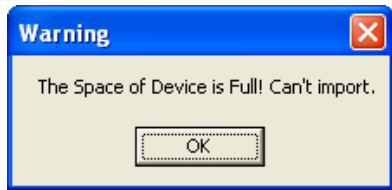

FIGURE 11
- Press  to add selected song/songs to the Clipboard. If storage capacity in Clipboard has exceeded the limit, a warning indication will be shown (FIGURE 11); likewise, you can refer to the capacity indicator for the percentage of being occupied storage.